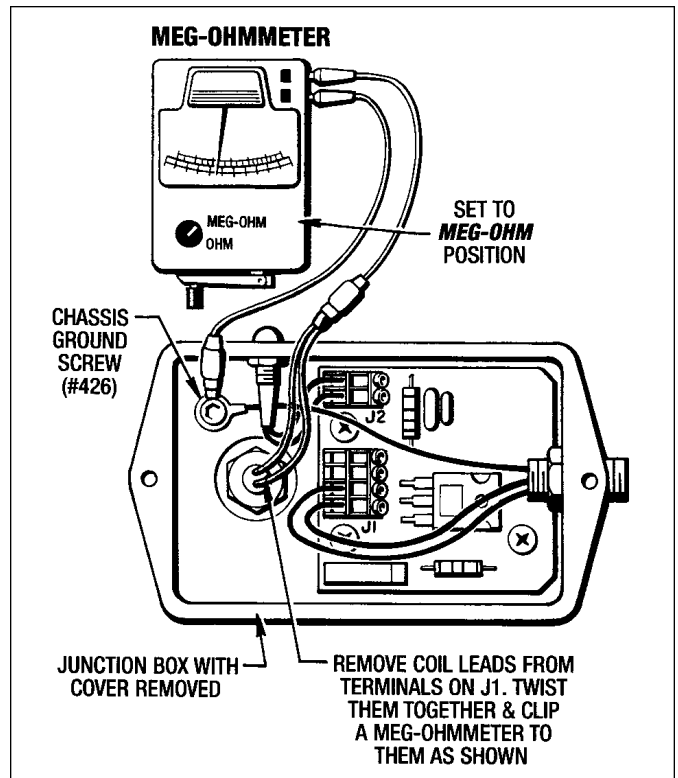

Figure 6.4 - Coil Current Leakage Testing
Connect (1) alligator clip to both Coil Leads and the other one to Chassis Ground Screw (#426). (See Figure 6.4)